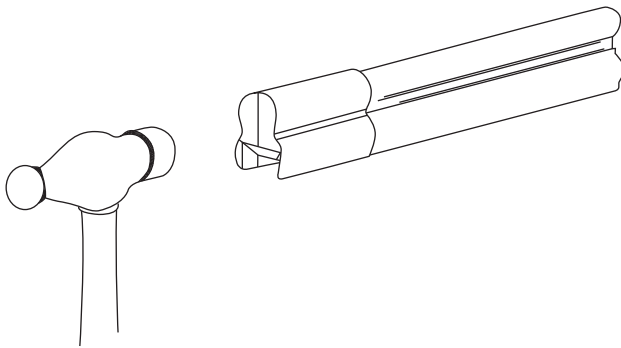

Figure: 9-13
- A. Place end caps at the ends of the conductor lines. Using a hammer and “gently” tap the end cap until it is fully seated. See **Figure 9-13**.